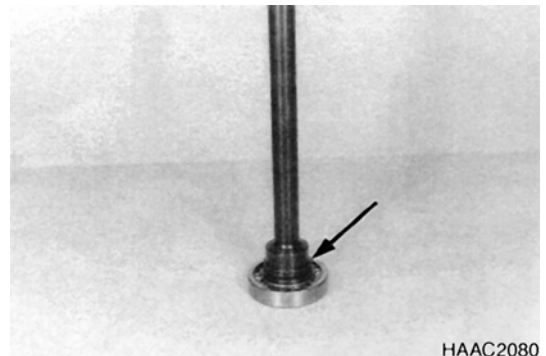

Figure 129
23. Squeeze rectangular ring (Figure 129) out and remove ball bearing from shaft.